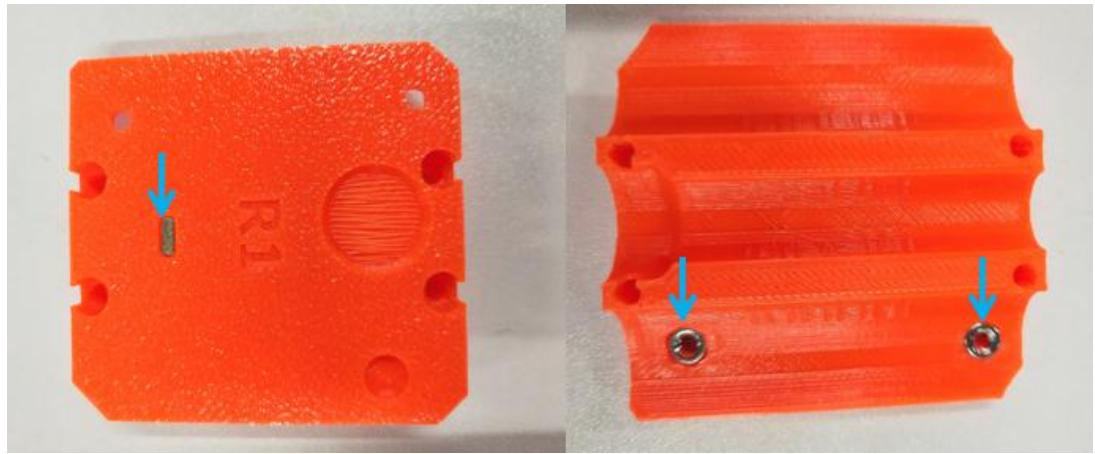

Figure 2.6.2
**Step 2-6-2:** As shown in Figure 2.6.2, insert an M3 square nut into the square slot on the MINI-z-carriage-rear, and on the other side insert 2pcs M3 hexagon nut into the hexagonal groove.